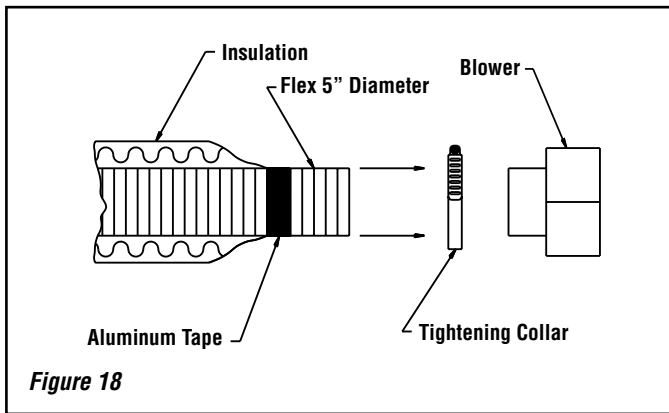

Figure 18
- D) Attach the flexible pipe to the blower, using the collars (**Figure 18**).